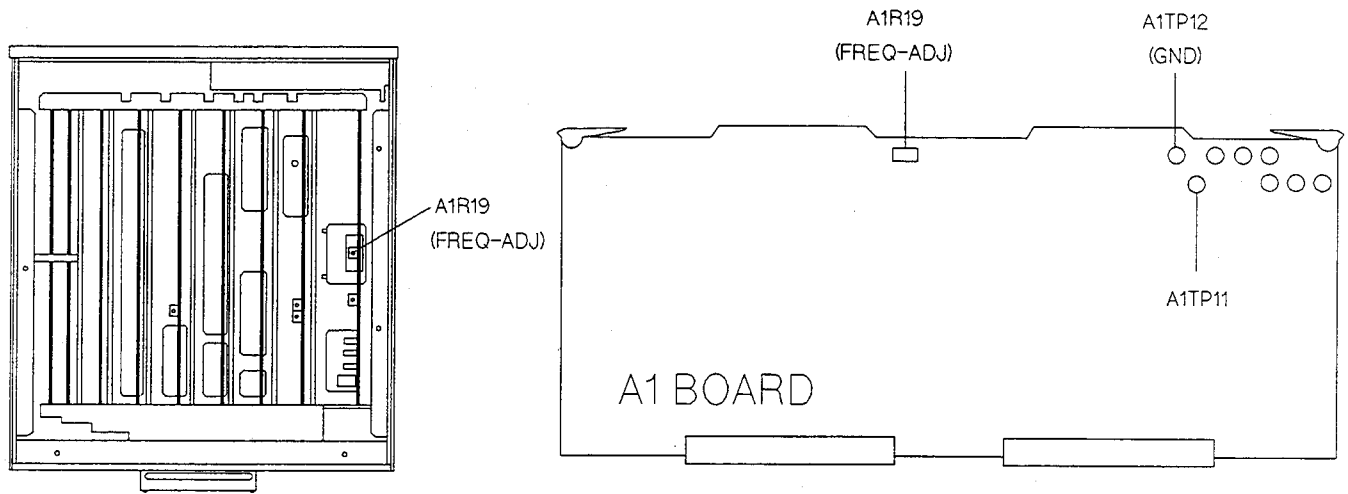
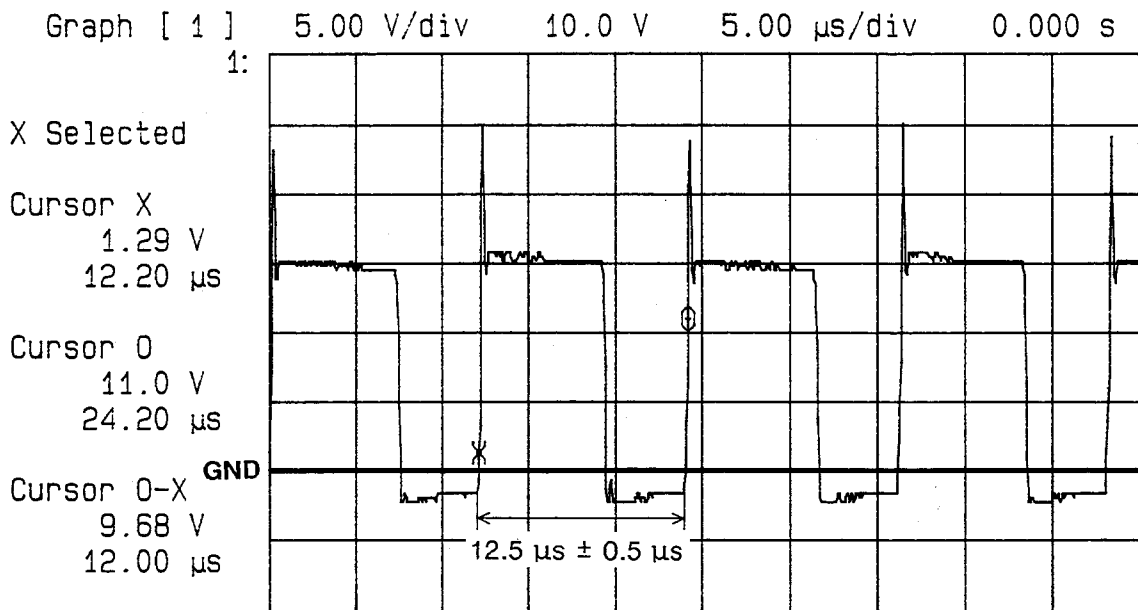

Figure 2-4. Power Supply Frequency Adjustment Location
Figure 2-5. Switching Waveform
4. Connect the probe's ground lead to A1TP12 (**GND**). Then connect the probe's tip to A1TP11. Figure 2-4 shows the location of TP11 and TP12.
7. Adjust A1R19 (**FREQ-ADJ**) until the period (T), of the waveform, is  $12.5 \mu\text{s} \pm 0.5 \mu\text{s}$ , as shown in Figure 2-5. Figure 2-4 shows A1R19's location.